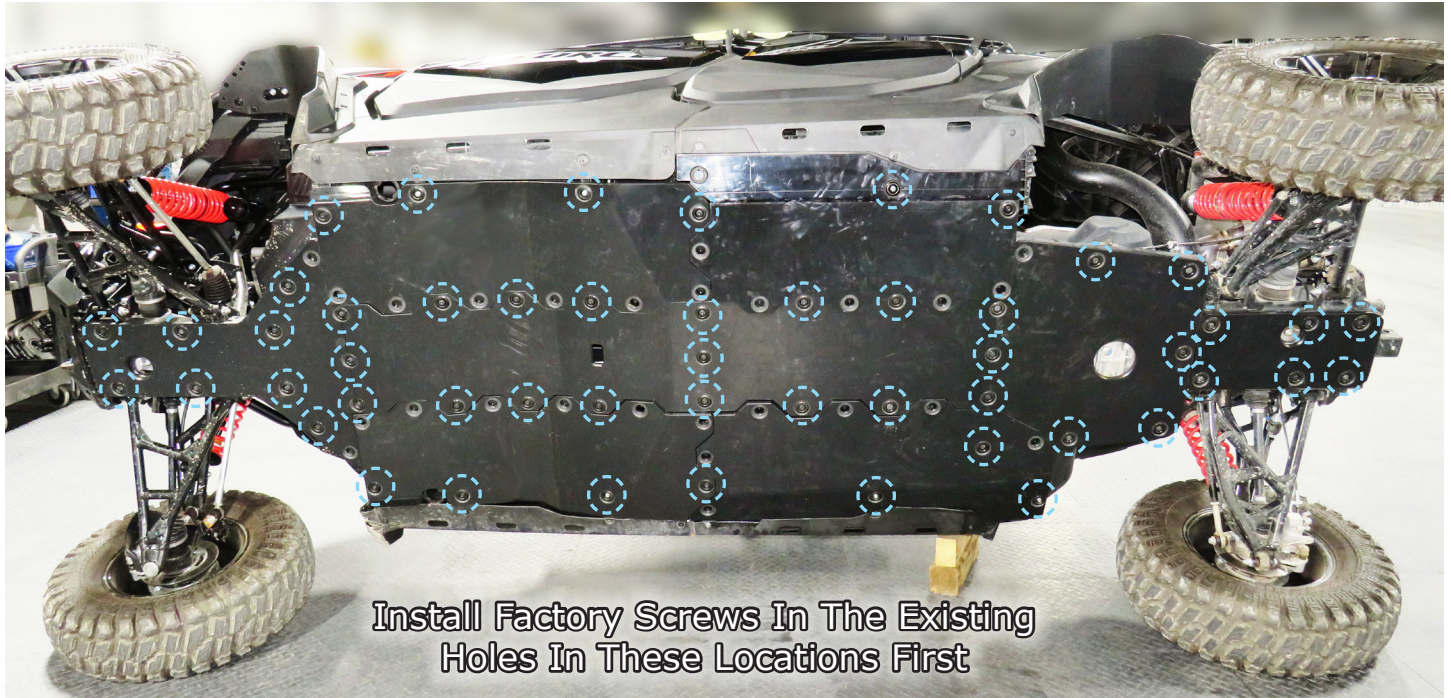
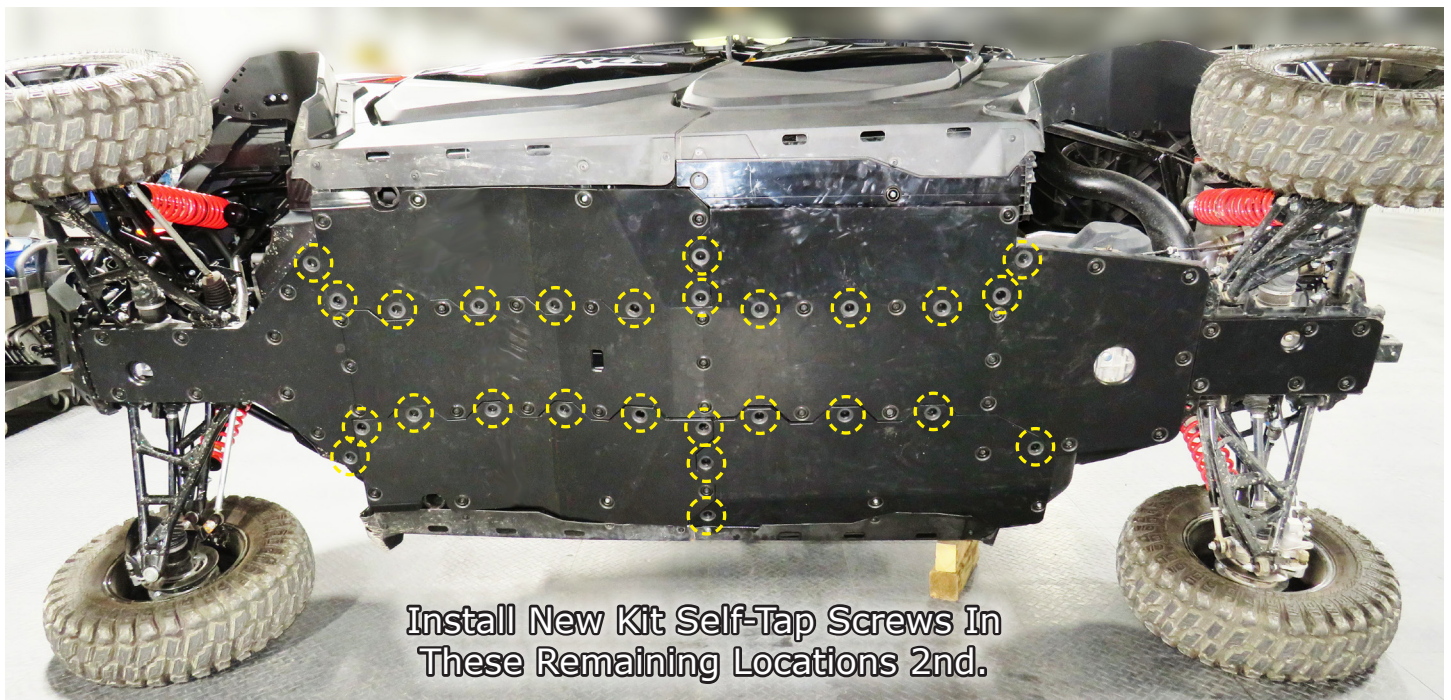
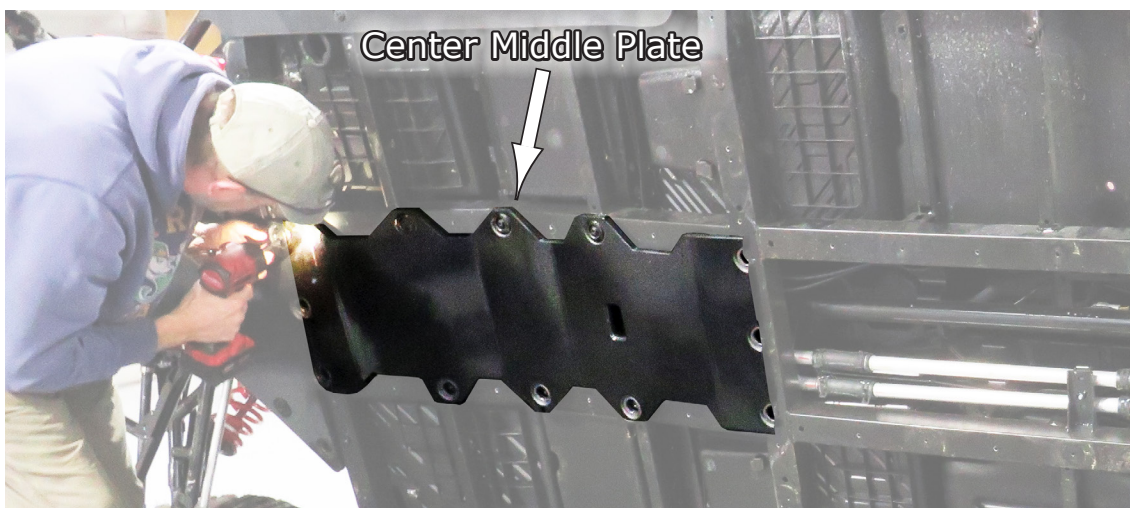

Fig.1a
Fig.1b
Fig.4
1. First, to point out, is that there are Two (2) sets of screws you will need to install. The first set is installing the **New Skid Plates** using your existing **Factory Screws** that came with your vehicle, and the last set are screws that are provided in your kit to fill those remaining holes. **Fig.1a** shows these existing **Factory Hole Locations** with all the **New Skid Plates** on, and **Fig.1b** showing the remaining holes filled with the **New Self-Tap Screws** provided in your kit.
So when you start to install your new skid plates, *first install them using the Factory Screws* in only the existing locations circled and shown in **Fig.1a**. Then follow up with the **Self-Tapped Screw Locations** in **Fig.1b**.
3. The first plate to install is the **Front Nose Plate** as shown in **Fig.3**. Be sure to reference **Fig.1a** to see which hole locations to install the **Factory Screws** into first. After installing those screws in that plate along with the **Bowl Washers** provided in your kit, then move to the next skid plate. Remember, you will go back and put in all the **Self-Tapping Screws** after all plates have been installed using the **Factory Screws**. See **Fig.3**.
4. Next, install the **Center Middle Plate** right behind the one you just installed, also using **Factory Screws** and **Bowl Washers** from your kit. See **Fig.4**. Again, reference **Fig.1a** for hole locations.
10. After all the factory screws are installed and all the plates are on, now you will need to install the **Self-Tap Screws** and **Bowl Washers** provided in your kit to the remaining holes per **Fig.1b**.